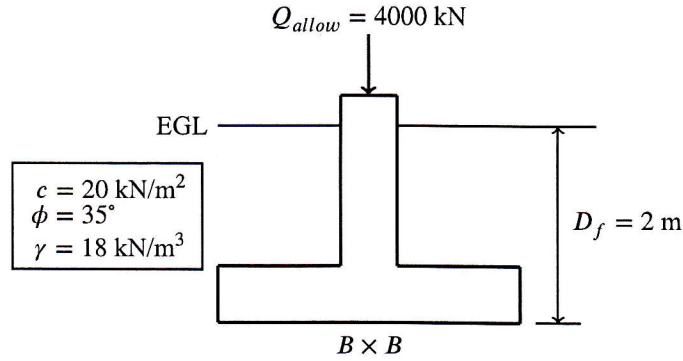

Figure 2: for QUES 5(b)
5. (a) Discuss the effect of water table on the bearing capacity of shallow foundation. (6)
- (b) A square shallow foundation as shown in the following figure (Fig. 2), has to carry a gross allowable load of 4000 kN. Use Terzaghi's bearing capacity equation to determine the size of the foundation (B). Assume a factor of safety (FS) of 3. (6.5)